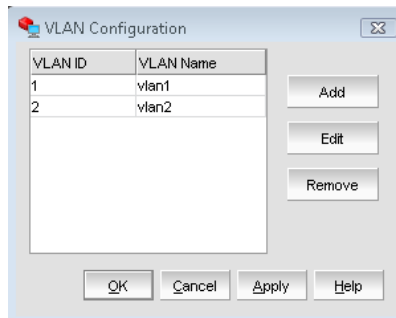

FIGURE 15 VLAN Configuration dialog box
4. Click **Add** on the **VLAN Configuration** dialog (Figure 15).
3. Click **Edit** on the **VLAN Configuration** dialog (Figure 15).
3. Click **Remove** on the VLAN Configuration dialog (Figure 15).